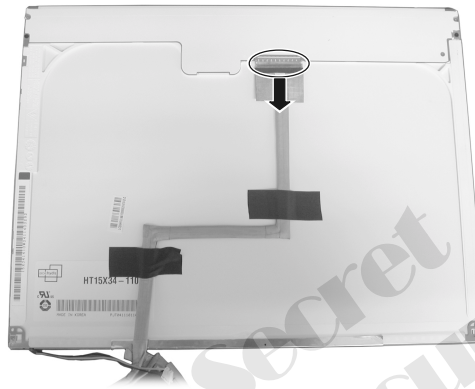

Figure 2-22 Free the LCD panel
5. Disconnect the cable and free the LCD panel. (Figure 2-22)